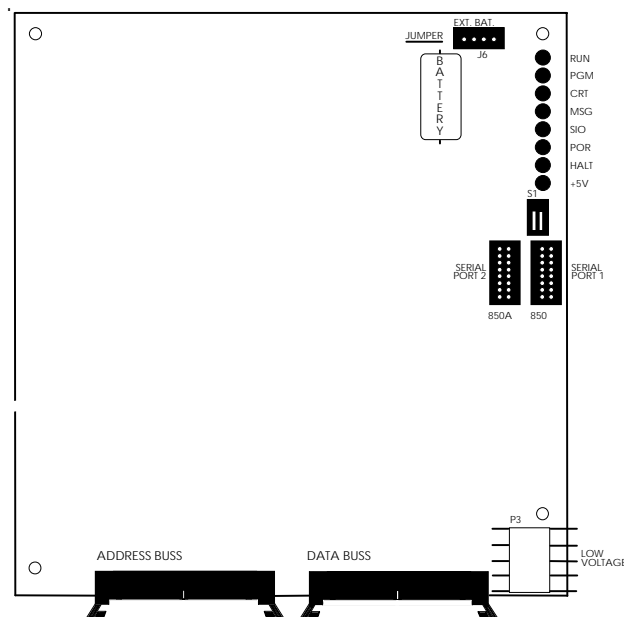

Fig. 4-3 Processor board.
17. Reconnect all leads (previously removed) to their proper connections (refer to Fig. 4-3).